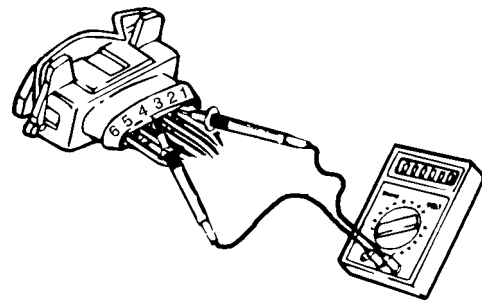

Fig. 15. Voltmeter connected to air mass meter terminals 1 (-) and 4 (+) to check for meter burn-off voltage
5. Reinstall the air mass meter and the harness connector. Peel back the rubber boot from the harness connector. Working from the rear of the connector, connect a digital voltmeter across terminals 1 and 4. See Fig. 15.